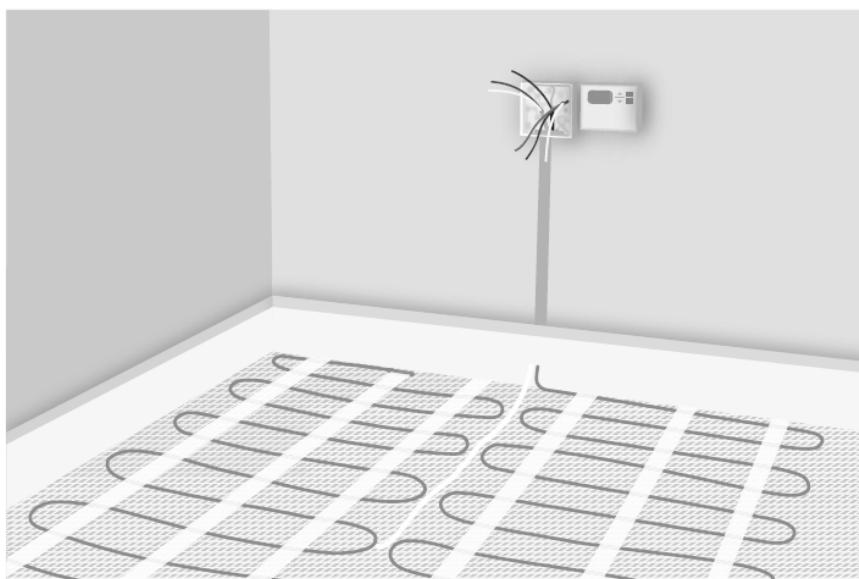

Fig. 2
- 3 **Fig. 2** shows an underfloor heating mat. The heating mat is used underneath floor tiles to heat rooms such as bathrooms.